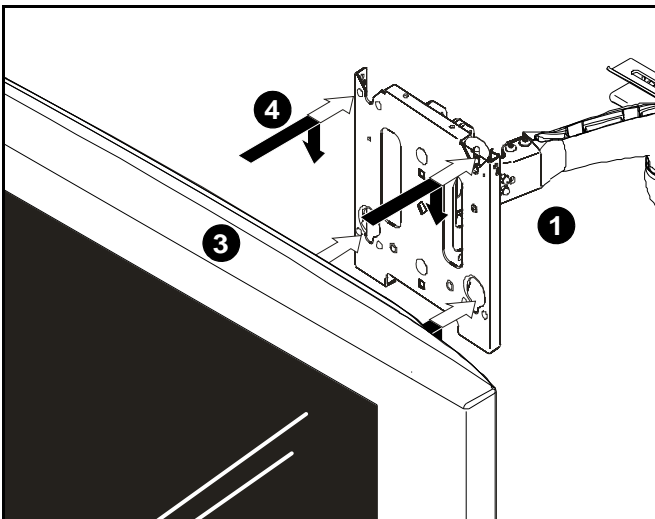
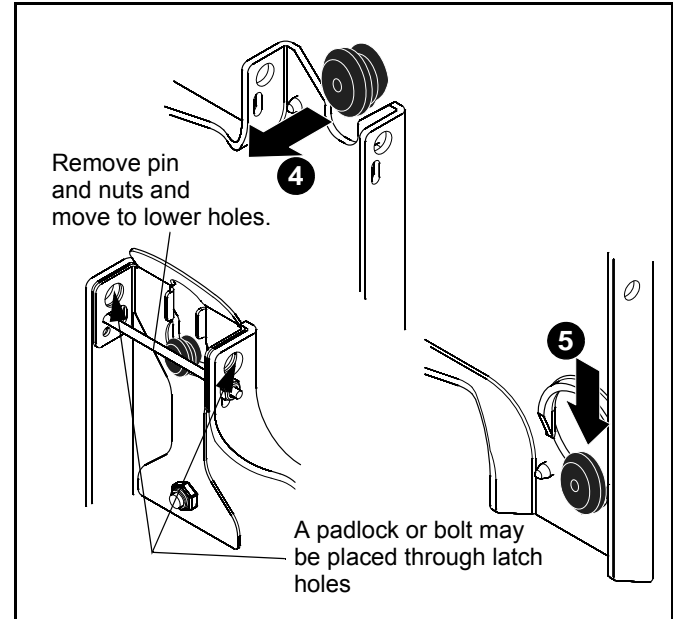

Figure 8
Figure 9
1. Move mount faceplate to extended position by grasping faceplate and pulling outward away from wall. (See Figure 8)
2. While supporting both sides of display, align four mounting buttons on display or interface bracket with four mounting holes in faceplate. (See Figure 8)
3. Lower display into place listening for audible "click" to ensure recessed area of mounting buttons are properly seated in lower area of mounting holes and "click lock" mechanism has engaged. (See Figure 8) and (See Figure 9)
NOTE: Holes are provided in the faceplate for use with a padlock or similar locking device, if desired. In addition, the pin and nut may be removed from the upper holes and moved to the lower holes for use as a more permanent locking device. (See Figure 9)